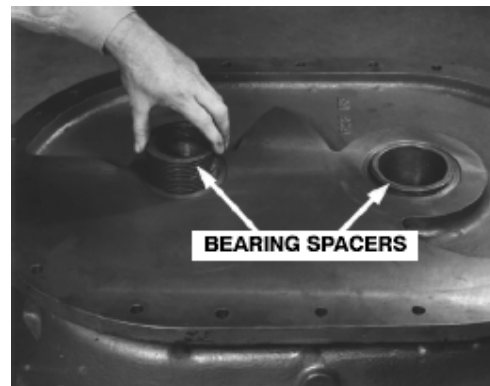

FIGURE 7-2 – BEARING SPACER
2. To ease assembly in later steps, fit the bearing spacers (20, 21) to the seals (22, 23) (FIGURE 7-2, page 41). Be sure there are no burrs on the spacer O.D. and seal I.D. Spacer should be SLIP FIT in the seal. A sloppy fit will cause excess air leakage and decrease blower efficiency. Do not drive the spacer through the seal as damage to the babbitt will result. It may be necessary to polish the high spots from the seal I.D. to allow slip fit of the spacer. USE CROCUS CLOTH, not emery cloth.